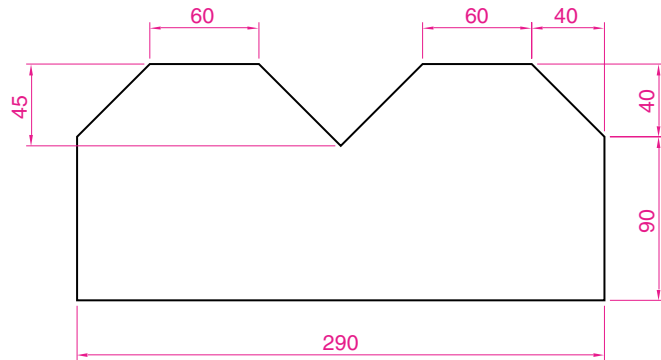

Fig. 6.12 Second example – outline for dimensions
1. Construct the outline in Fig. 6.12 – a pline of width=1.